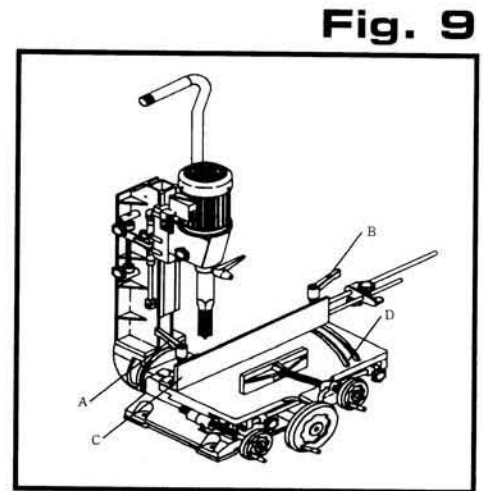

Fig. 9
1. Loosen lock knob (A) and (B). (Fig.9)
2. Point the scale (D) to adjust fence (C) to the desired angle 0° - 30° .
3. Tighten lock knob (A) and (B).